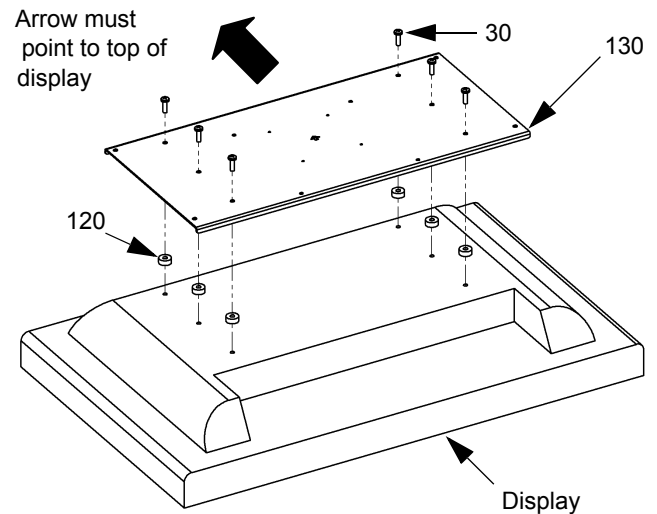

Figure 8: Attach 400mm x 200mm Interface Adapter
1. Select six M6 x 20mm Phillips pan head screws (30) and six retaining spacers (120).
3. Install six M6 x 20mm screw (30) into the six mounting holes on the interface bracket (130). (see Figure 8)
4. Slide six retaining spacers (120) onto six M6 x 20mm screws (30).